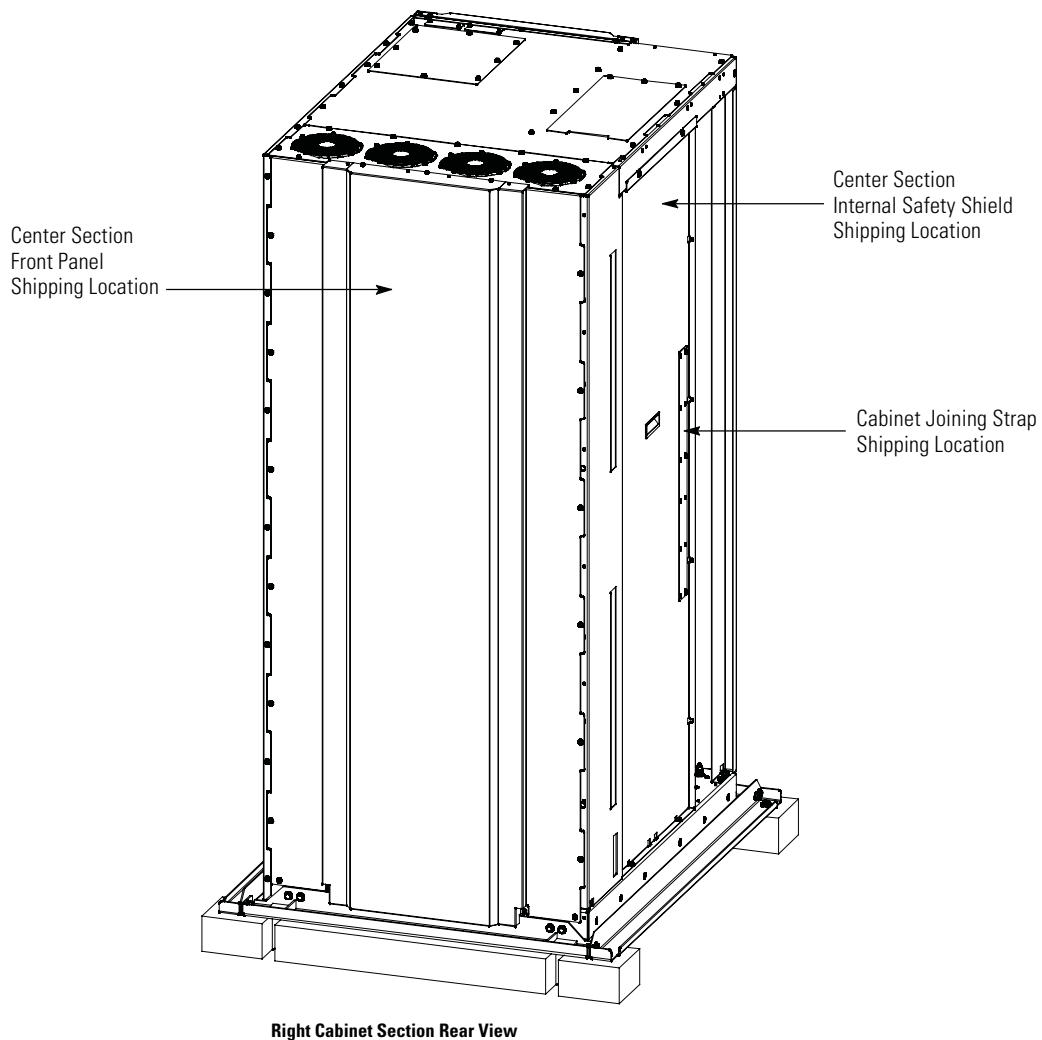

Figure 4-3. Center Section Front Panel and Internal Safety Shield Shipping Location
4. Remove the center section front panel from the rear of the right cabinet section (see Figure 4-3). Retain panel and hardware for later use.
5. Remove the cabinet joining strap from the center section internal safety shield (see Figure 4-3). Retain the strap and hardware for later use.
- Remove the center section internal safety shield from the left side of the right cabinet section (see Figure 4-3). Retain panel and hardware for later use.